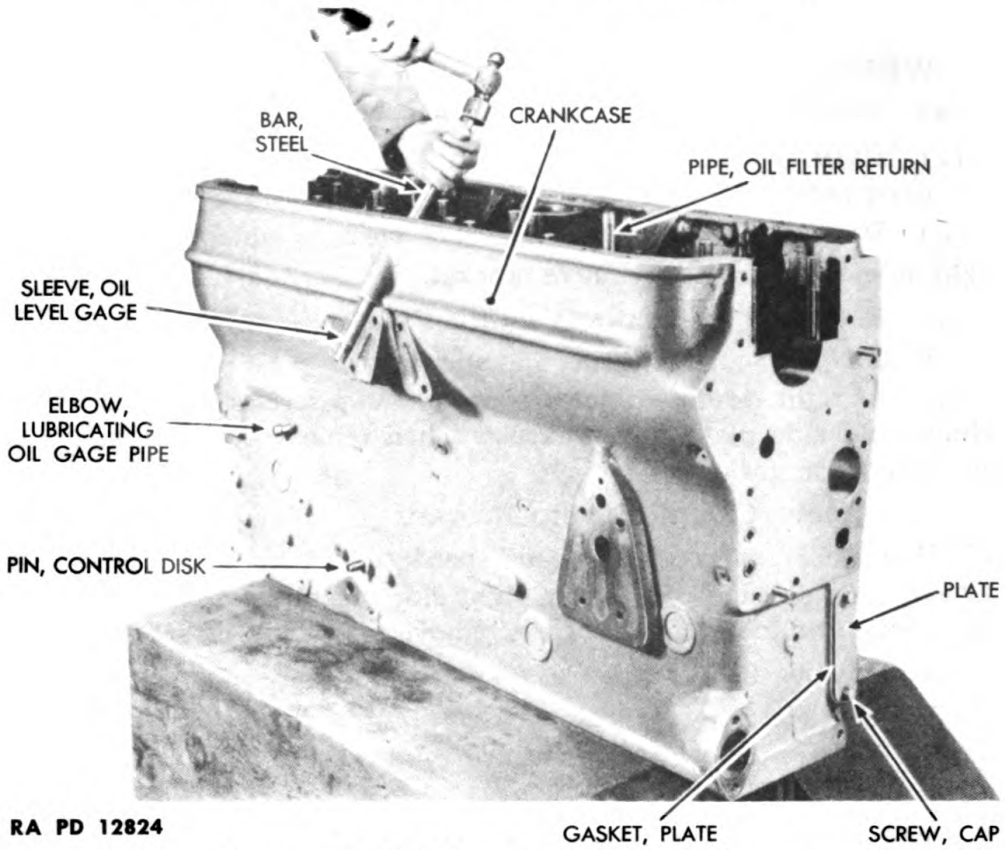

Figure 57—Driving Out Oil Gage Sleeve
- (6) REMOVE OIL LEVEL GAGE SLEEVE (fig. 57).
- (7) REMOVE LUBRICATING OIL GAGE PIPE ELBOW (fig. 57).
- (8) REMOVE CROSS SHAFT CONTROL DISK PIN (fig. 57).
- (9) REMOVE OIL FILTER RETURN PIPE (fig. 57).
- (10) REMOVE PLATE FROM FRONT END OF CRANKCASE (fig. 57).